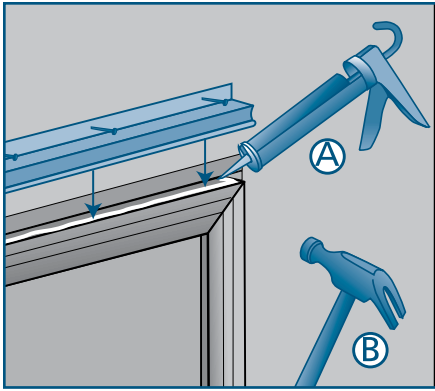

Fig. 45A & B
- Apply **1/4"** bead of sealant to top of the header brickmold along the front and side edges (**Fig. 45A**).